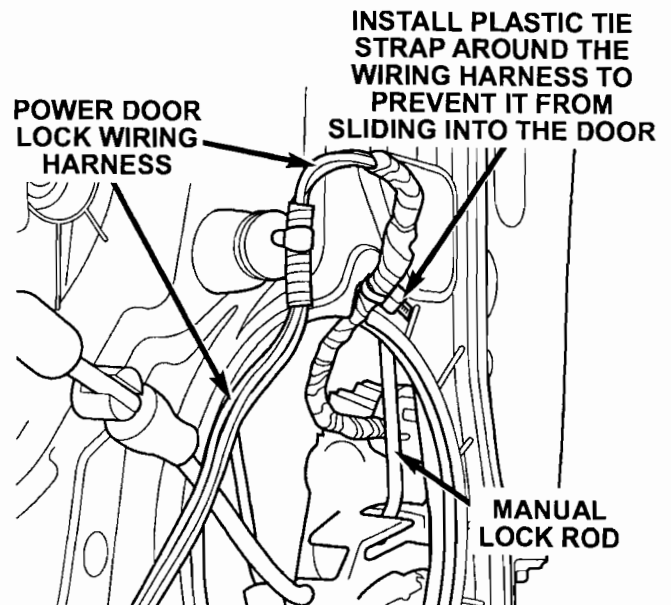

Figure 10
32. Route the power lock wiring so that it does not rub against the door glass or manual lock rod (Figure 10).
33. Place a tie strap around the wiring harness to keep the wiring harness from sliding into the door (Figure 10).